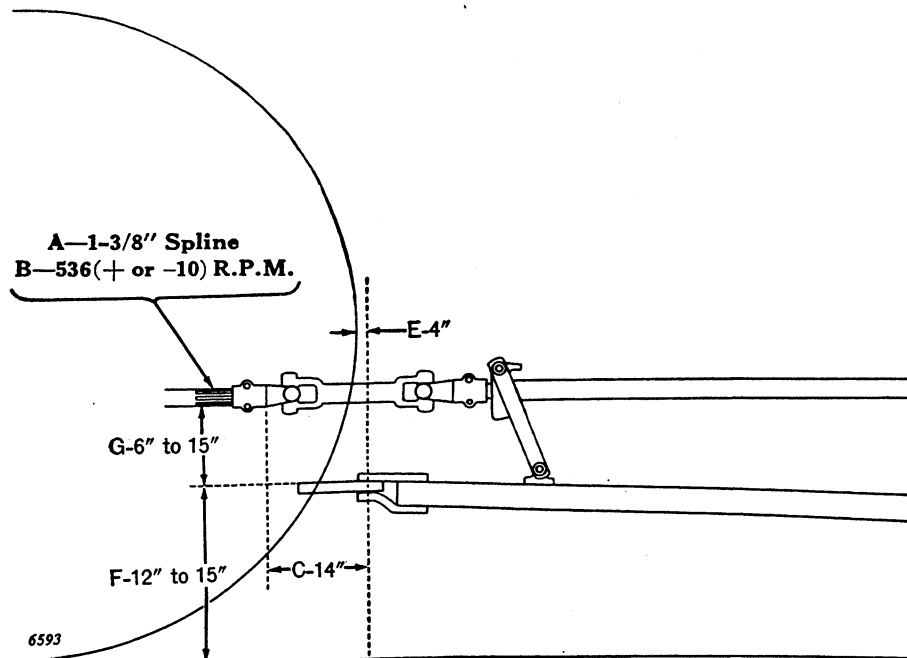

Figure 91
(See Figure 91.)
- B. **536 R.P.M. (Plus or minus 10) Take-Off Shaft Speed.** (See Figure 91.)
- C. **14" horizontal distance between hitch point and end of splined take-off shaft.** (See Figure 91.)
- E. **Not less than 4" horizontal distance between hitch point and rearmost point on wheel.** (See Figure 91.)
- F. **12" to 15" vertical distance between ground line and top of drawbar at point of hitch (15" is preferred).** (See Figure 91.)
- G. **6" to 15" vertical distance between top of drawbar at hitch point and center line of splined take-off shaft (8" is preferred).** (See Figure 91.)